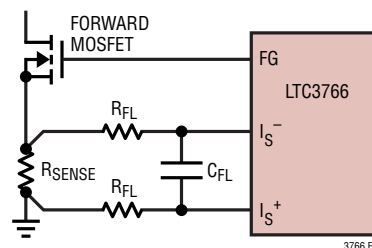

Figure 11. Using a Current Sense Resistor
When using a current sense resistor, the  $I_S^+$  and  $I_S^-$  pins operate differentially and the maximum peak current threshold is approximately 75mV. Normally, the current sense resistor is placed in the source of the forward MOSFET, as shown in Figure 11. Depending on PCB layout and the shielding of the traces going to the  $I_S^+$  and  $I_S^-$  pins, it is sometimes necessary to add a small amount of filtering as shown in Figure 11. Typically, values of  $R_{FL} = 100\Omega$  and  $C_{FL} = 200pF$  to  $1nF$  will provide adequate filtering of noise pickup without substantially affecting the current loop response.
1. The accuracy of the current sense resistor and/or current sense transformer. For resistor sensing, the accuracy of the current sense resistor is normally 1%. For sense resistors less than  $2m\Omega$ , however, the parasitic inductance can cause a significant error in the sensed current. This error can be eliminated by adding an RC filter as shown in Figure 11.